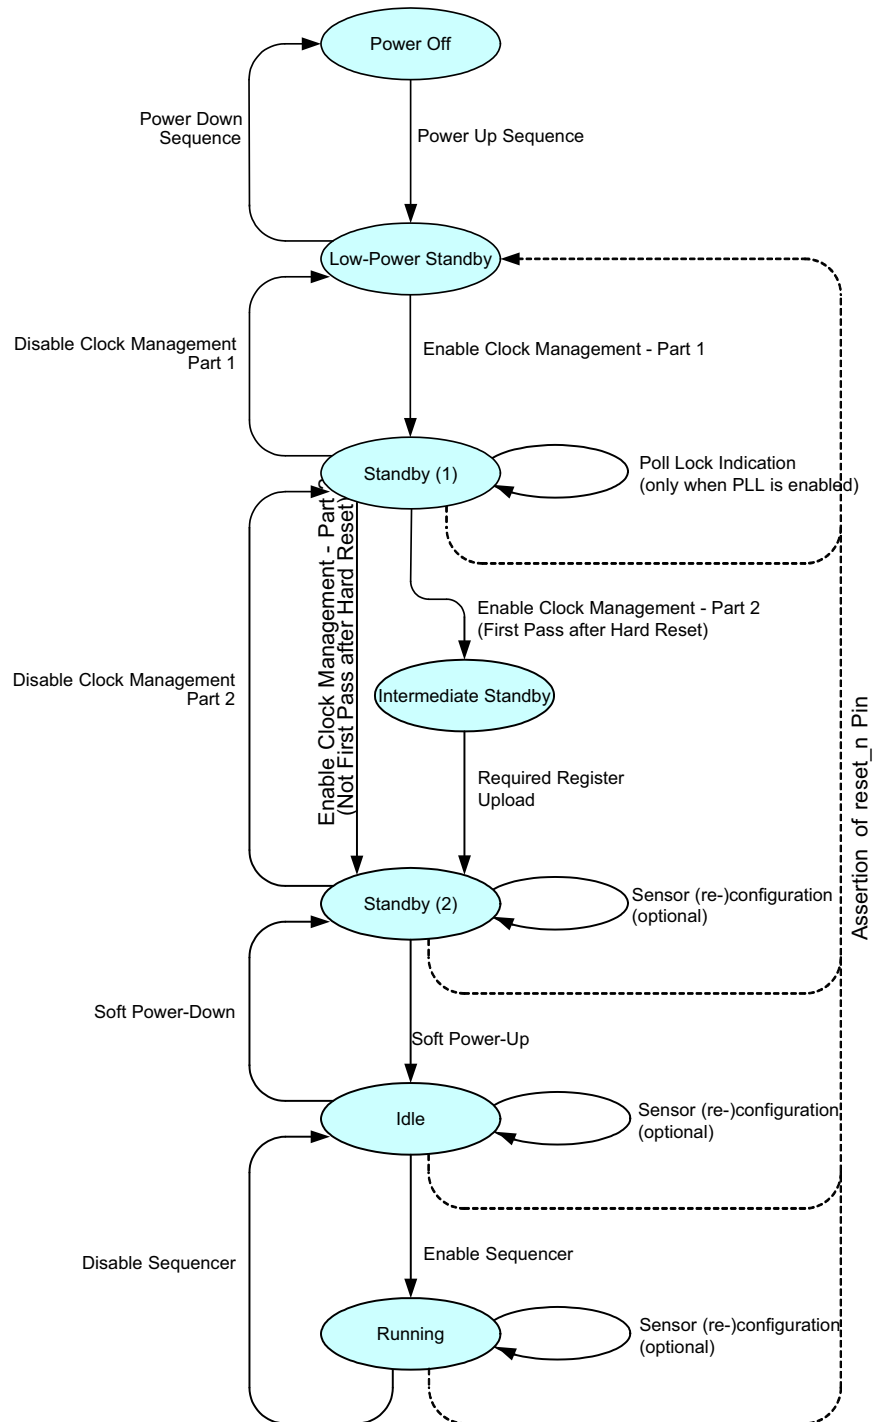

Figure 15. Sensor Operation Flowchart
Figure 15 shows the sensor operation flowchart. The sensor has six different 'states'. Every state is indicated with the oval circle. These states are Power off, Low power standby, Standby (1), Standby (2), Idle, Running.
Check the PLL\_lock flag 24[0] by reading the SPI register. When the flag is set, the 'Enable Clock Management– Part 2' action can be continued. When PLL is not used, this step can be bypassed as shown in Figure 15 on page 14.